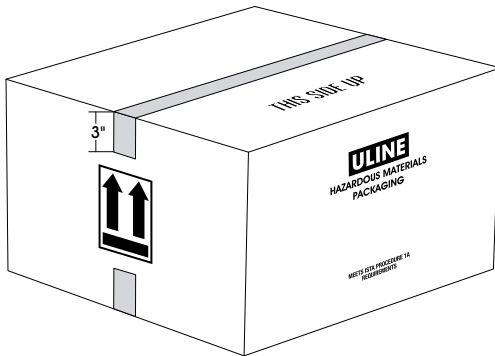

Figure 6
9. Seal top of carton down the center seam with one strip of 2" wide (2 mil) polypropylene tape (Uline Model # S-472). The tape must extend 3" over each end of the carton. (See Figure 6)